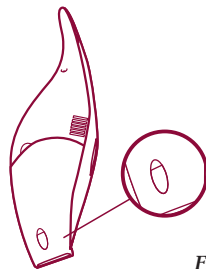

Fig. 9
- Check the level of liquid in the tank often: the inspection window located on the bottom of the tank lets you see how much liquid has been vacuumed. Keep the appliance vertical, with the opening facing downward. (fig.9)